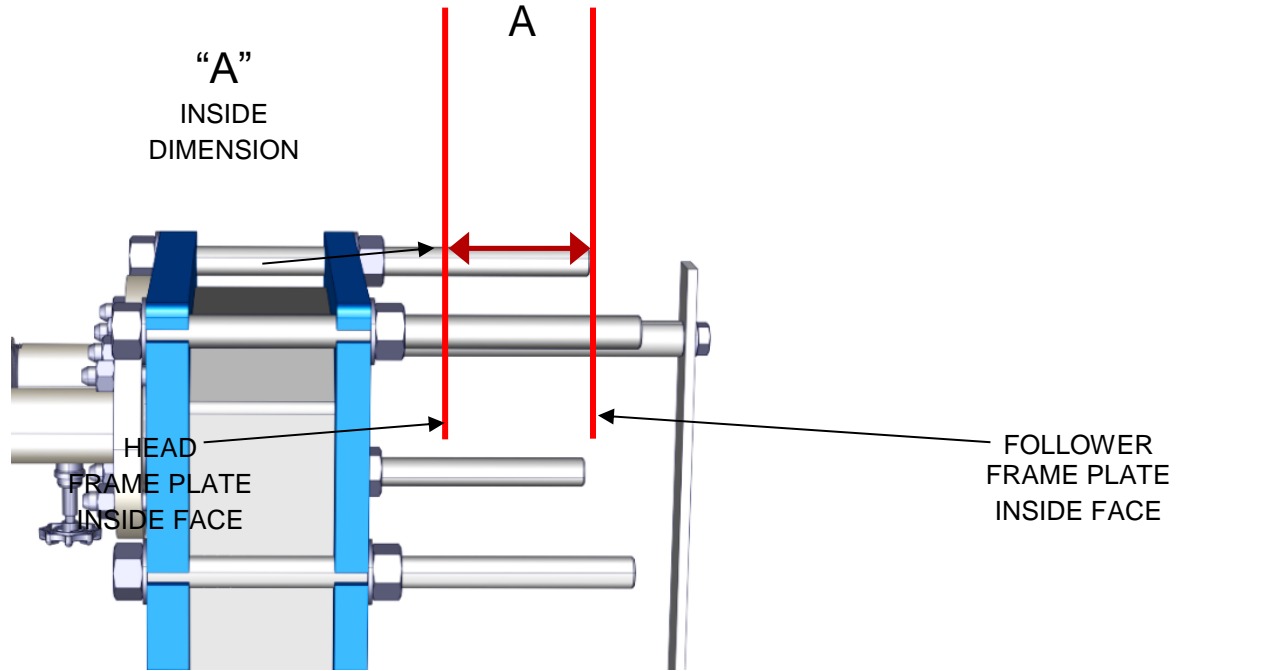

FIGURE 4-1: Critical Dimension “A”
IMPORTANT! The distance between the inside faces of the Follower frame plate and the Head frame plate (“A” in Figure 4-1) is listed in the service contract. If unavailable, then carefully measure and record it before disassembly, as this dimension is critical for proper reassembly.
6. Clean the exposed threads of the ten clamping bolts (Figure 4-1) and grease them.
5. Tightening is complete when the distance between the inside faces of both Follower and Head frame plates equals the "A" distance as shown in the datasheet or measurement (see Figure 4-1). This tightening distance can also be calculated using the following formula: Assembly distance = No. of plates x (plate thickness + coefficient) the coefficients vary depending on the model type. If in doubt, please check with the relevant BRADFORD WHITE Sales Office.